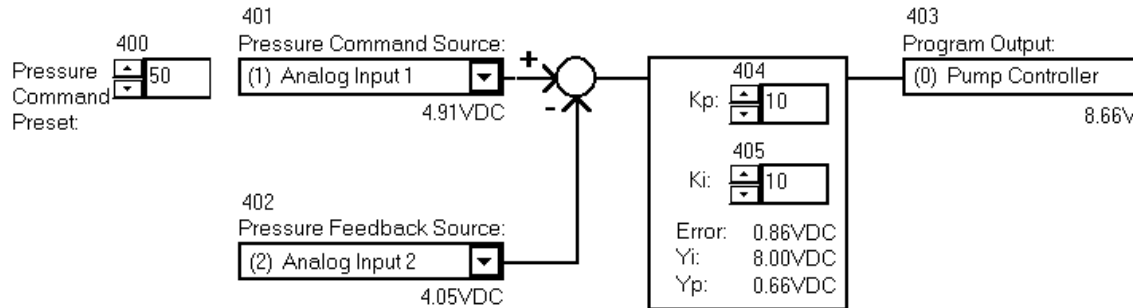

Figure 4: Pressure Control Program
Example: Figure 4 shows the Program 1 Form for Pressure Control. The Pressure Command Source is Analog Input 1 (program item 401=1) and the Pressure Feedback Source is Analog Input 2 (program item 402=2). The Pressure Command Preset has a value of 50% (program item 400=50) although it is not used for this particular example.